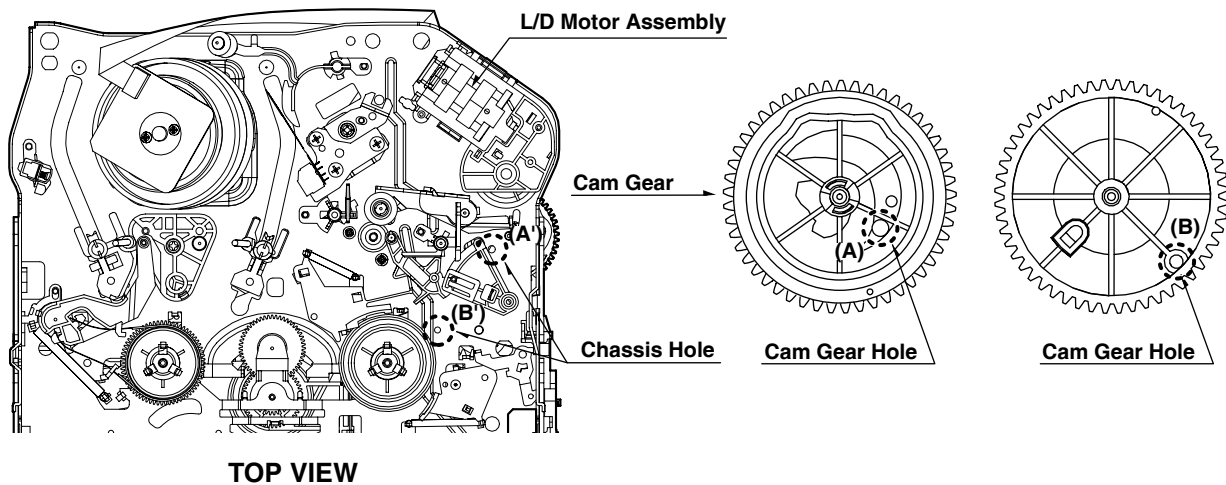

Fig. C-2
2) Remove the Top Cover and Top Plate Assembly, visually check if the Cam Gear Hole is aligned with the Chassis Hole as below Fig. C-2.
3) If not, rotate the Shaft of the Loading Motor Clockwise or Counterclockwise until the Alignment is as shown below in Fig. C-2.